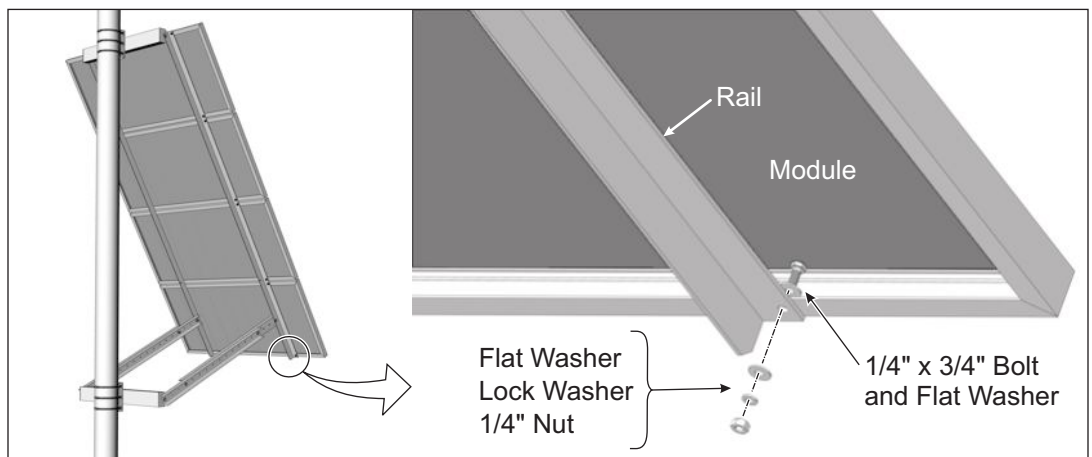

Figure 7-1: Attaching Module to Rail
- A. Place the Module on the Module Rails. While one person holds the Module in place, align the mounting holes and secure with four 1/4" x 3/4" bolts and hardware. Torque to 6-8 ft.-lbs. (See Figure 7-1)